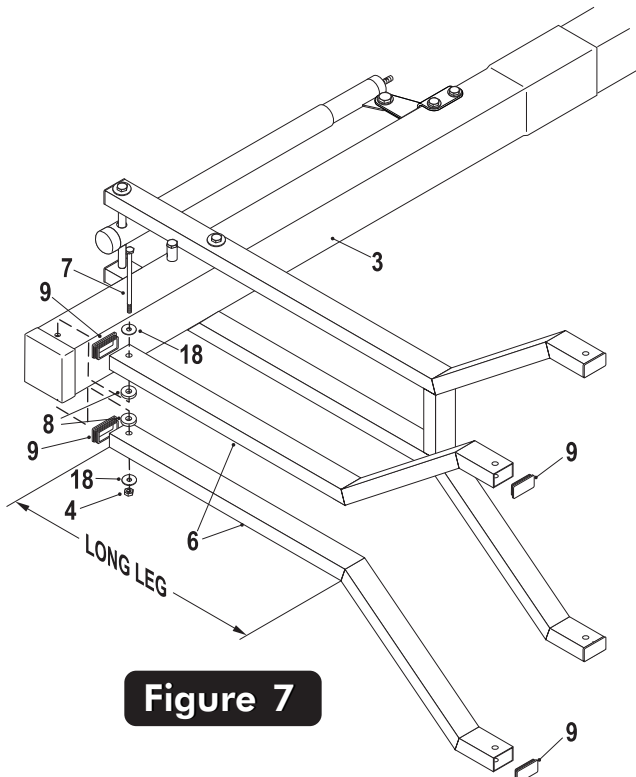

Figure 7
11. Attach long leg of Upper Arms (#6) to Top Pole (#3), as shown in Figure 7, using a bolt (#7), two flat washers (#18), two spacers (#8) and one lock nut (#4).
12. Insert four Tube Plugs (#9) into open ends of Upper Arms (#6). It may be necessary to use a rubber mallet to tap plug in. See **Figure 7**. **Note:** Tube plugs may be pre-installed by the factory.